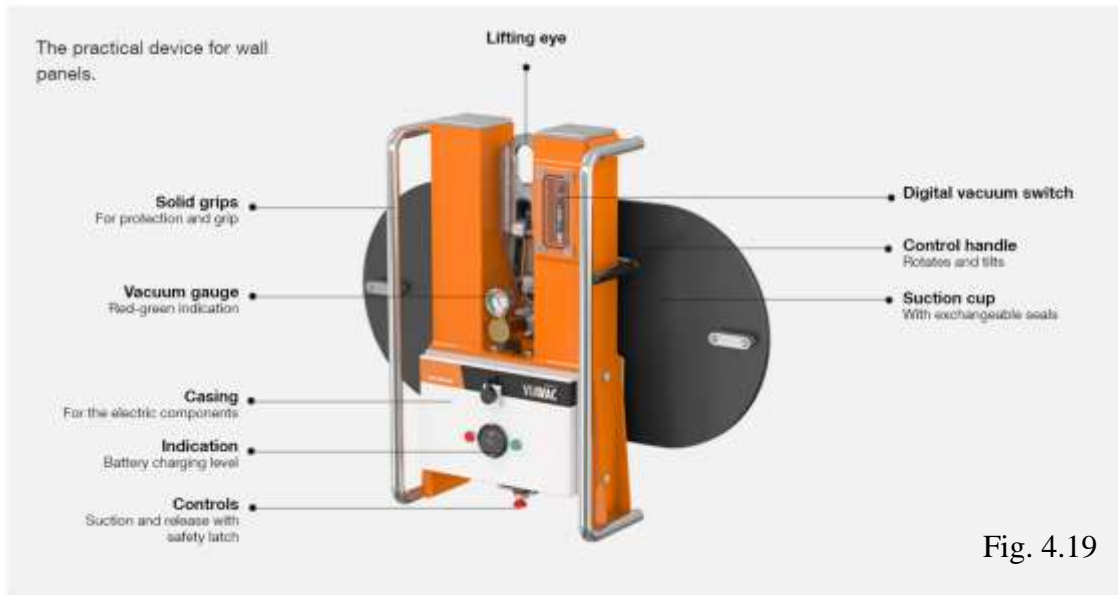

Fig. 4.19
4.19 Panel installation time is typically reduced when using vacuum lifting equipment as shown in Figures 4.19 and 4.23. Equipment must be designed for panel lengths, weights and profiles to be lifted – verify the requirements of your specific project with your lifting equipment supplier.